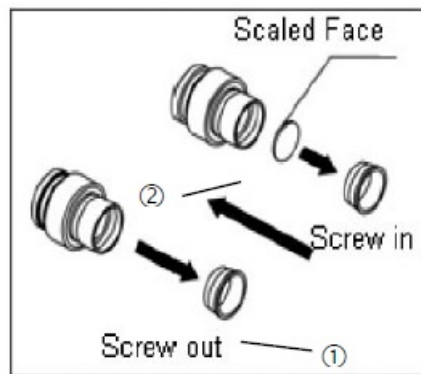

Fig. 6
- Installing or Removing the Reticle (Fig. 6)
- Unscrew the reticle retaining ring 1 from the eyepiece (see Fig. 6).